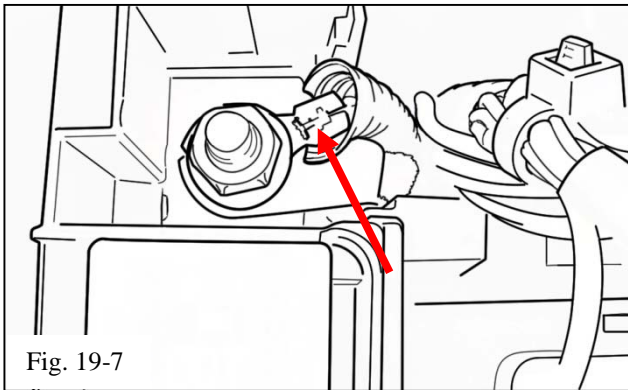

Fig. 19-7
- (i) Connect the 8mm ring terminal from the intercooler relay to the B (+) terminal in the fuse panel (Fig. 19-7) after trimming it to length.